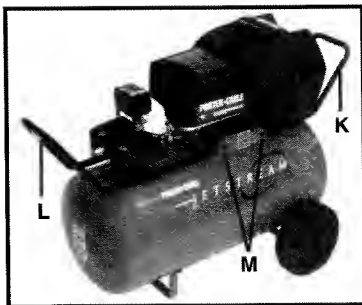

Fig. 5
1. See Fig. 5. Position legs of handle (L) inside compressor saddle. Align holes in handle legs with holes in saddle. Position legs of hose rack (K) inside the handle legs. Align holes in hose rack with those in the handle and saddle. Use a $\frac{3}{8}$ " wrench to secure handle and hose rack in place, using the four screws provided, (two screws (M), through each side of saddle).